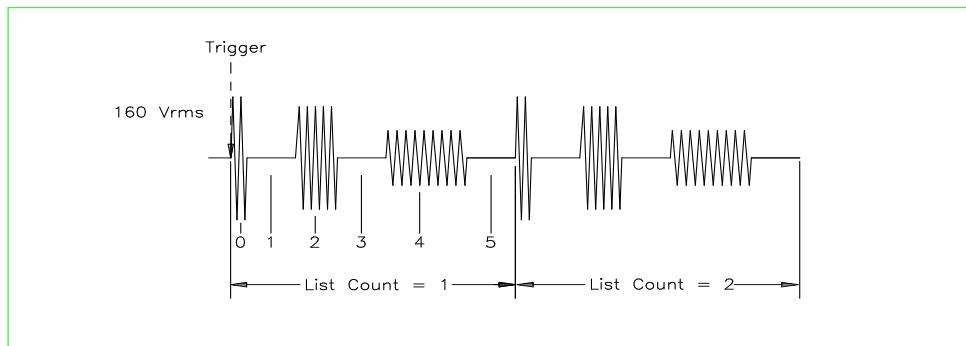

Figure 4-44: List Transients
- 13) Move the cursor to the END DELAY field and enter 0.067 for a interval delay of 67 ms. Notice that we effectively combined steps 0 and 1 from *Figure 4-44* into a single list event.
- 21) Move the cursor to the START field and press the ENTER key. The transient program you just created will execute two times. If you have an oscilloscope connected to the output, you may be able to see the output voltage change per Figure 4-44.